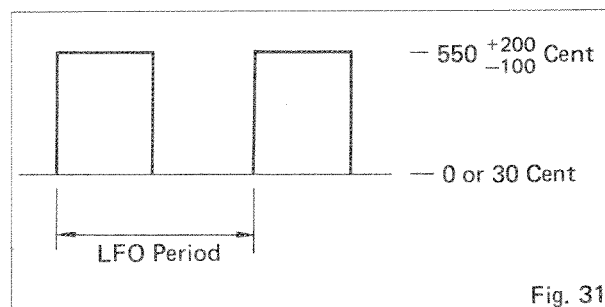

Fig. 31
3. Set $\sim/\nearrow/\sqcap$ W-VCA and WHEEL-VCO (hereinafter referred to as W-VCO) to \sqcap , OFF, and ON, respectively. At that time, waveforms as shown in Figure 31 should be obtained. Set W-VCO and RESONANCE of the VCF section to OFF and H, respectively. And bring CUT OFF FREQUENCY switch down to a position where a waveform indicated in Figure 5 is obtained. After that, set RESONANCE to L.